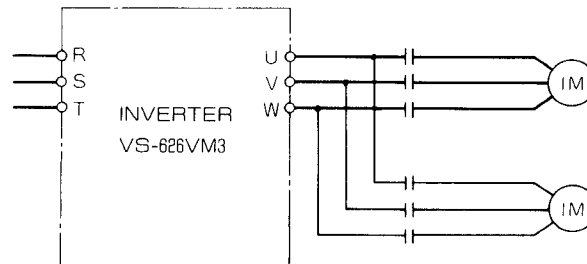

Fig. 4.18 Connection for Switching Motors
- (11) To switch two or more motors by making or breaking of an magnetic contactor between the inverter and the motor as shown in Fig. 4.18, the circuit must be opened or closed when the motor stops and there is no current. To switch the motor, the encoder signal must also be switched.